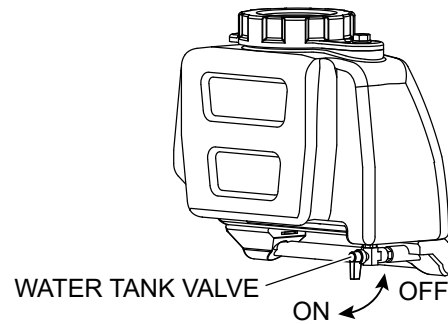

Figure 10. Water Tank ON-OFF Valve
2. Check the water tank ON and OFF valve (Figure 10).